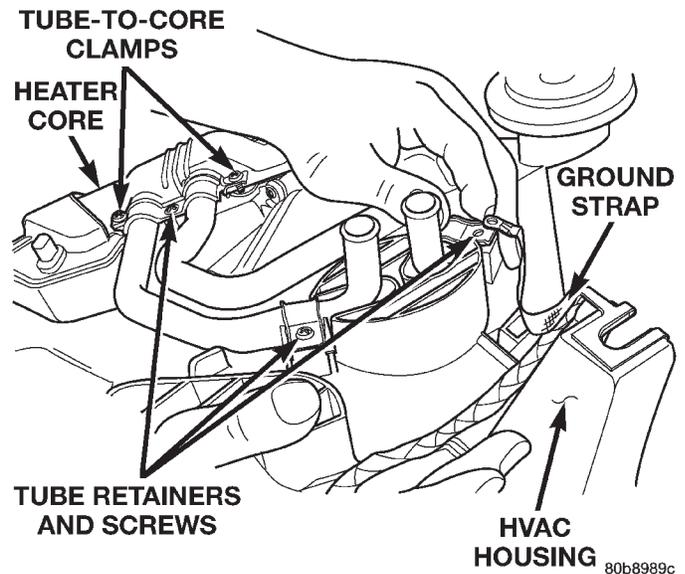
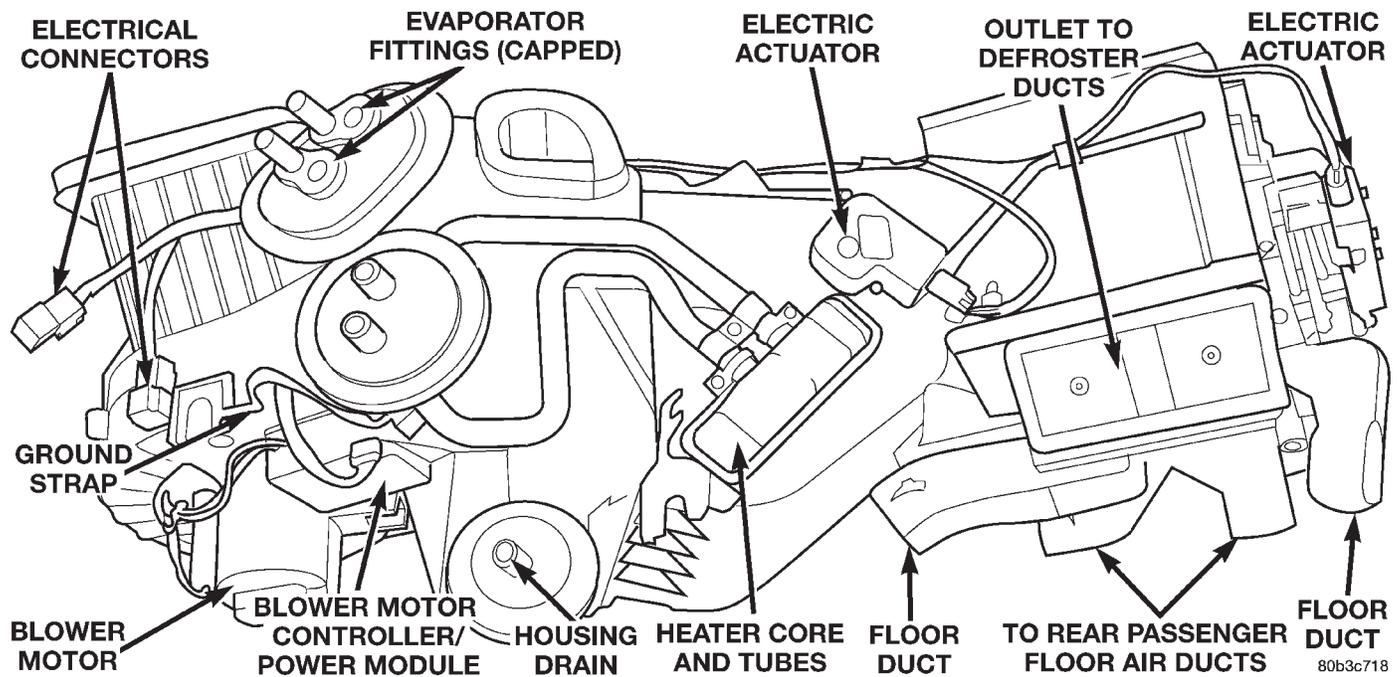

Fig. 51 Heater Core, Tubes, Retainers
Fig. 52 Heater Core and Tubes
(3) Remove the screws and retainers that secure the heater core and tubes to the heater-A/C housing (Fig. 51).
(4) Remove the mode door actuator if necessary, for clearance to remove the core.
(5) Lift the heater core straight up and out of the heater-A/C housing (Fig. 52).
(6) When replacing individual tubes, loosen and remove the round tube-to-core clamp, and pull tube from core.